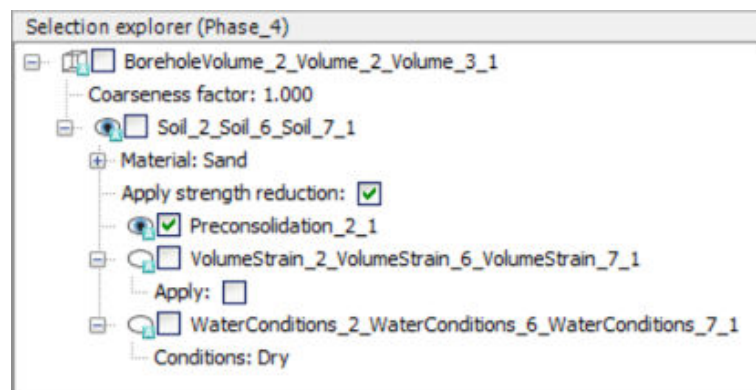

Figure 34: Water conditions in the Selection explorer
16.  In the **Selection explorer** under **WaterConditions** feature, click on the **Conditions** and select the **Dry** option from the drop-down menu as in Figure 34 (on page 53).